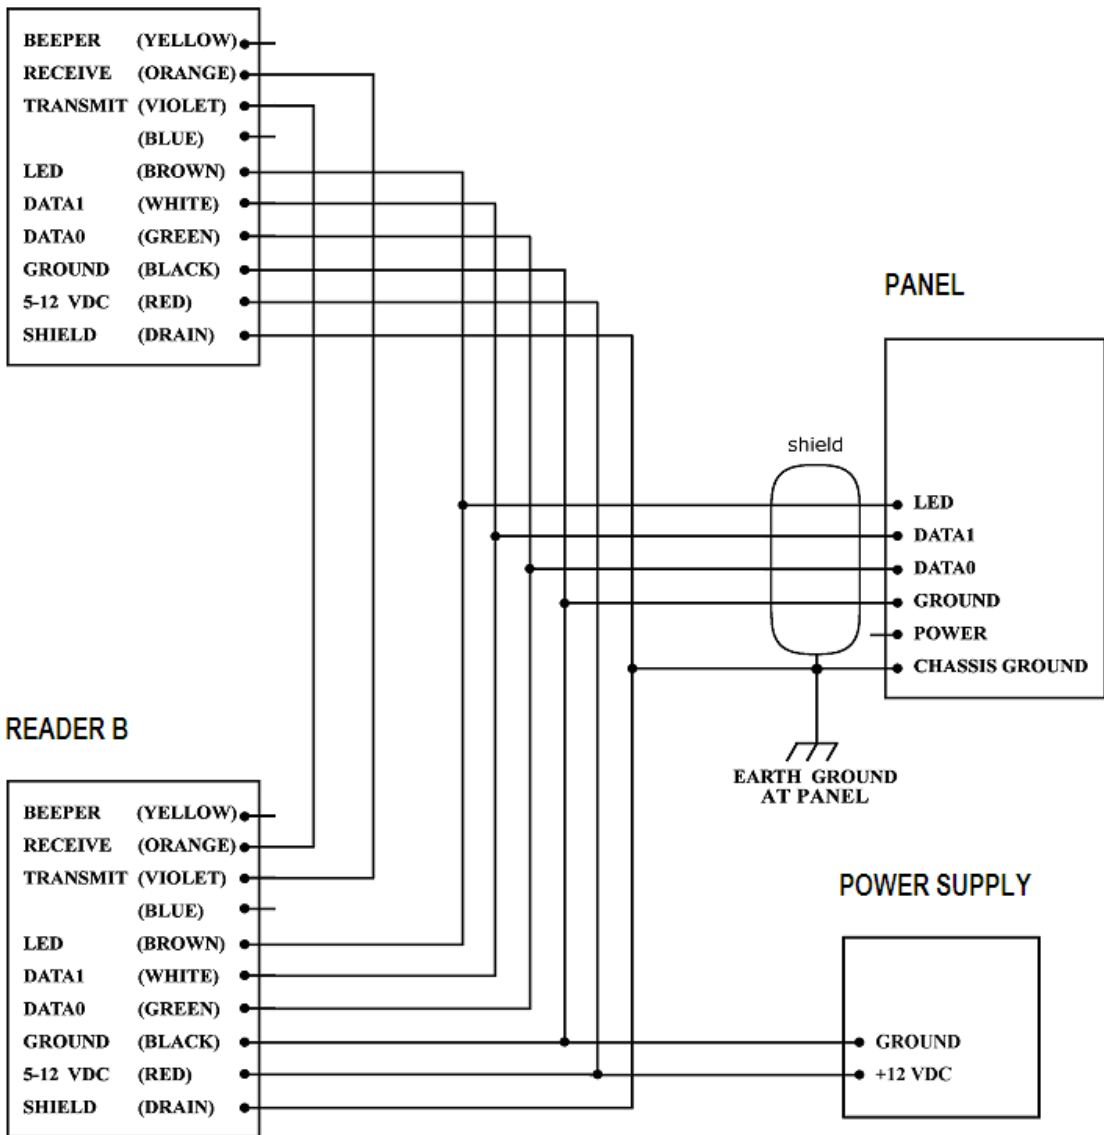

FIGURE 2: Wiring Diagram (Wiegand)
3. Connect the reader's cable to the controller panel as shown in Figure 2. Connect **yellow** wire only if used for Beeper control by the panel. Connect **orange** and **violet** wires to the opposite colors (*violet* and *orange*) on the other reader of the set. **Tape or cap all unused wires singly.**
(b) Number of conductors depends upon use of optional features – LED, Beeper and Hold. See Figure 2.